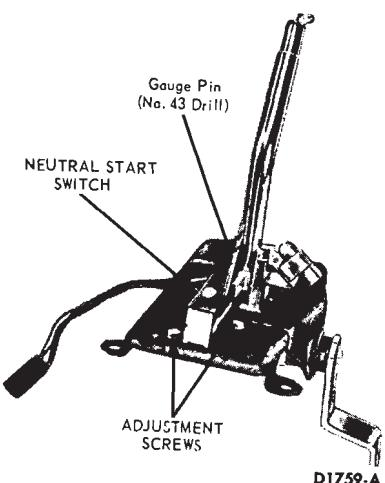

FIG. 12—Neutral Start Switch Adjustment—Console or Floor Shift—Fairlane-Montego
6. Loosen the two combination starter neutral and back-up light switch attaching screws (Fig. 12).
7. Move the selector lever back and forth until the gauge pin (No. 43 drill) can be fully inserted into the gauge pin holes (Fig. 12).
7. With the selector lever in neutral, move the selector lever back and forth until the gauge pin (No. 43 drill) can be fully inserted into the gauge pin holes (Fig. 12).